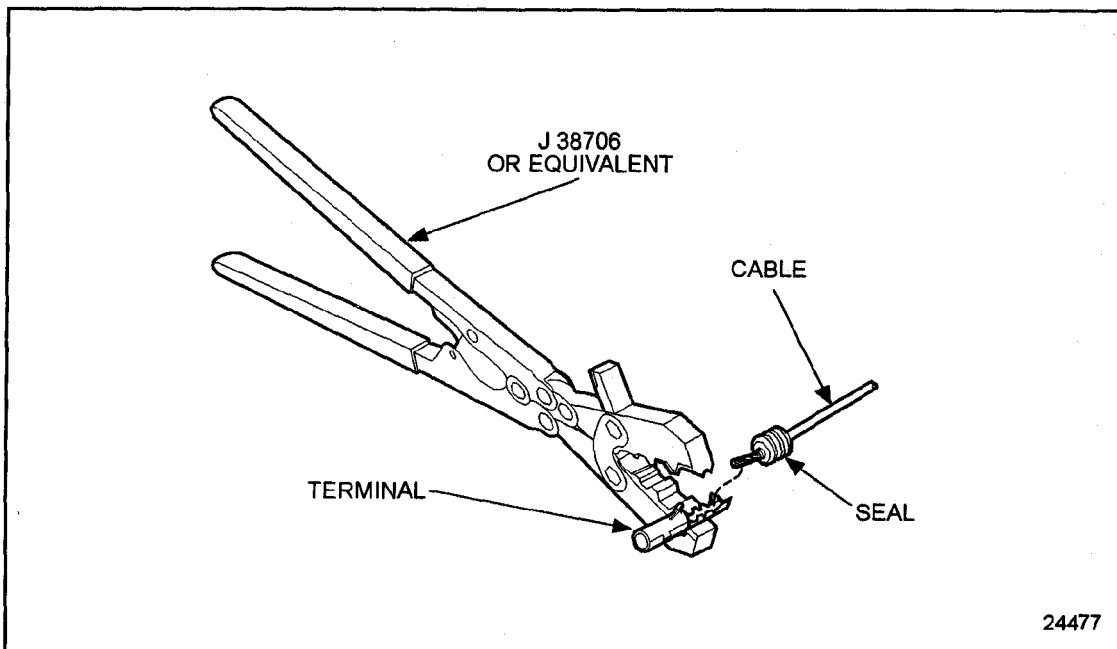

Figure 8-37 Terminal Position
3. See Figure 8-37 to position the cable seal.